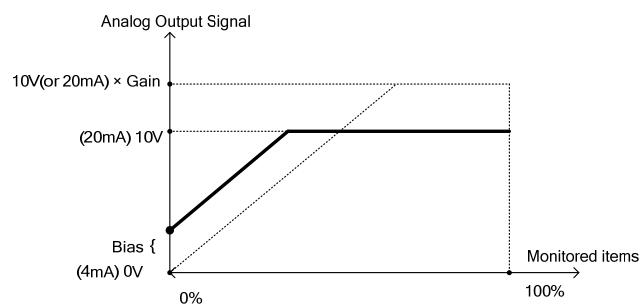

Figure 4.3.51 Analog output level adjustment
(1) Analog output adjustment (04-12, 04-13) ◦
- Please refer fig 4.3.51 for analog output level adjustment.